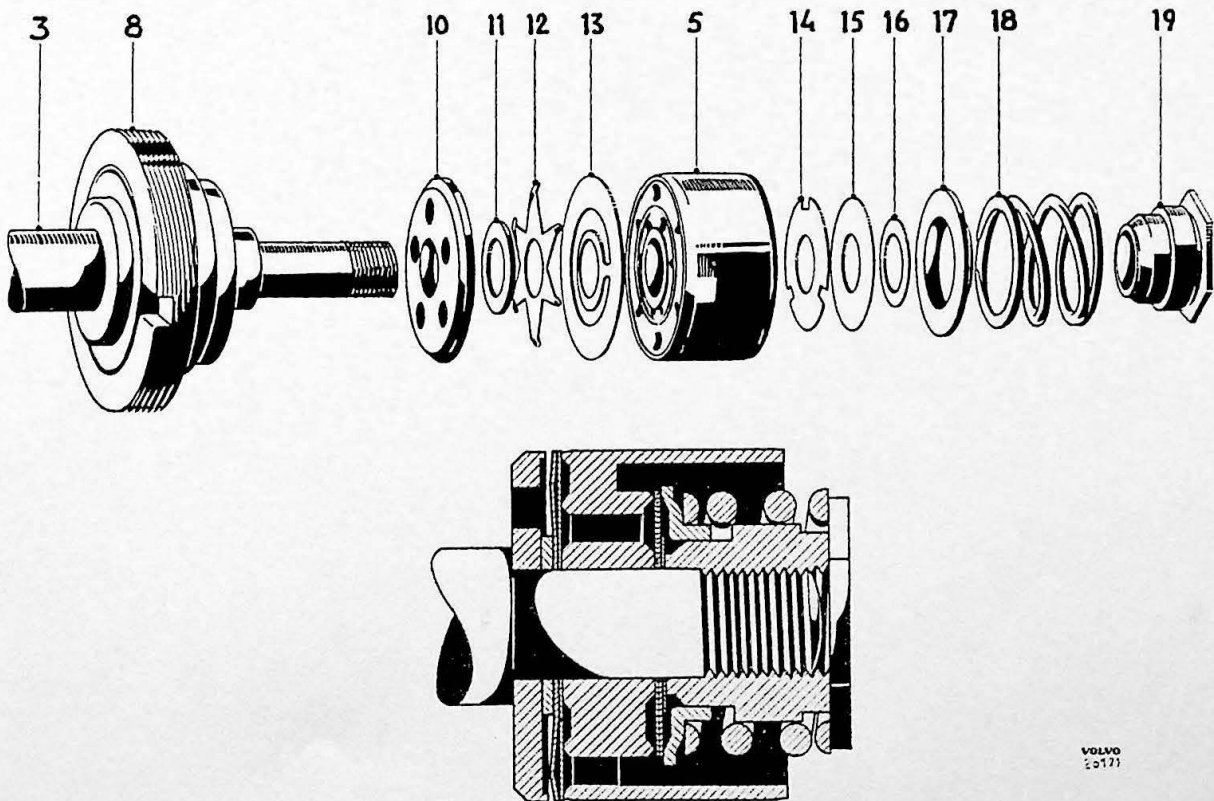

Fig. 6.
The design of the shock absorbers is shown in Fig. 5. The outer cylinder (1) acts only as a guard against dust and dirt. The two remaining cylinders (2 and 4) are concentrically installed, with one pushed entirely in the other. The operating cylinder (2), or pressure tube, is fitted with a valve (6) at its lower end. A plunger (5) with valve operated channels slides in the pressure tube (see Fig. 6). The plunger is attached to a plunger rod (3), which is formed into an eye at its other end for attachment to the body. At the other of the shock absorber a similar eye is attached to the cylinder (4). The space between the cylinders (2 and 4) serves as a reservoir and is only partially filled with fluid. The pressure tube is completely filled with fluid on both sides of the plunger (5). The cap (8) functions as a plunger seal and guide. The ring (7) is designed to prevent splash in the fluid.
4. Unscrew the nut (19 Fig. 6) and remove the plunger (5) complete with the integral parts and cap (8).
1. Protect the plunger threads with a covering (so that the seal is not damaged) and fit the cap (8 Fig. 6).
2. Remove the covering and fit the remaining parts as instructed below. See Fig. 6.